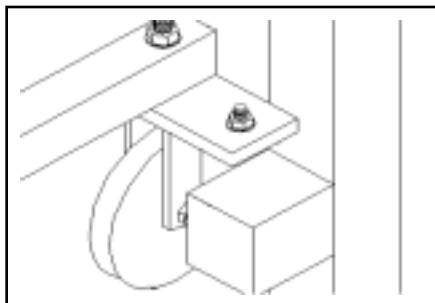
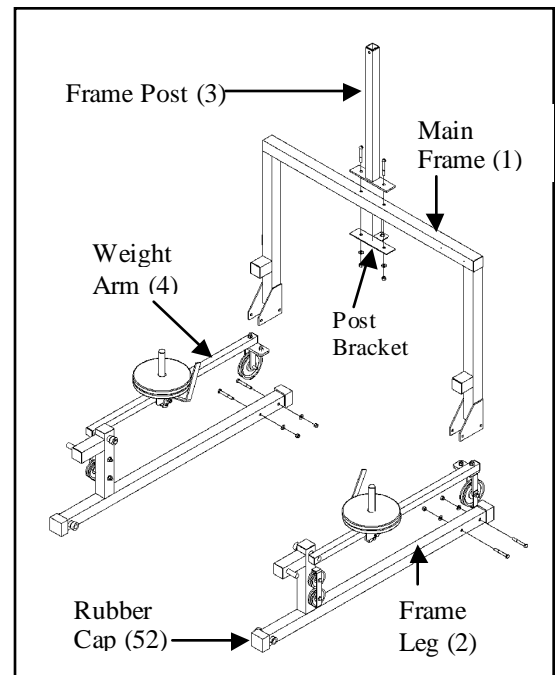

Figure 3
Figure 2
A. Frame Assembly (Figures 2 & 3)
1. Lay the two *Frame Legs* (part #2) on the floor about 42" apart with the pulleys facing out. Ensure that the four heavy *Rubber Caps* (52) at the ends of the *Frame Legs* have not come loose during shipment.
2. Position the *Main Frame* (1) onto the *Frame Legs* (Figure 2), making sure the weight arm is resting on the *Main Frame*, not on the floor (Figure 3). Attach the *Main Frame* using the 3/8" *Hex Bolts* (48) and *Nuts* (42) provided.
3. Bolt the *Frame Post* (3) to the *Main Frame* (1) using the black button head bolts with the post bracket at the bottom of the U-Frame as shown in Figure 2.